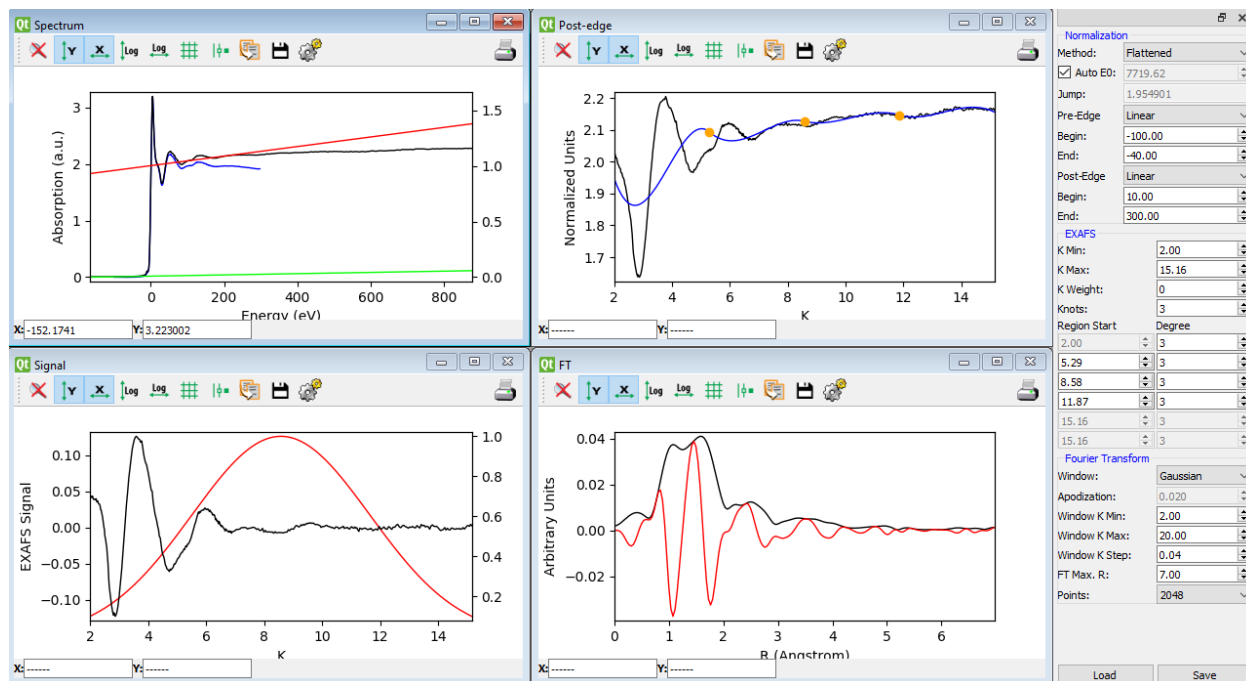

Figure 2-5: This window allows manual control over background and spline removal.
- 5) Yikes! That's a pretty ugly Fourier transform! There's a lot of intensity below $R = 1$, which is not physically reasonable since no Co-ligand bonds will ever be $< 1 \text{ \AA}$, so we know the spline function needs work. The good news is that the intensity between $R = 5 - 6$ is low, so the noise isn't too bad. Thankfully the spline function can be modified in PyMCA so we can get an idea of what the data are telling us. To do this, again replot the average of the mca data one more time and then navigate to 1D Plugins > XAS > Configure to pull up the window shown in Figure 2-5.